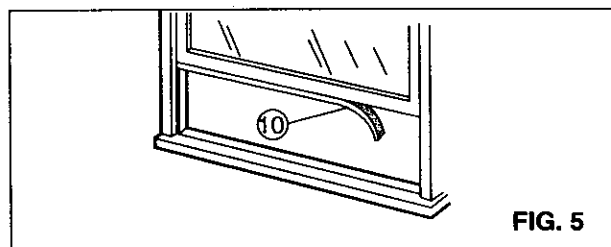

FIG. 5
- 3** Cut the FOAM-PE ⑩ to fit the underside of the window sash. Peel off the backing and attach the seal as shown in Fig. 5.